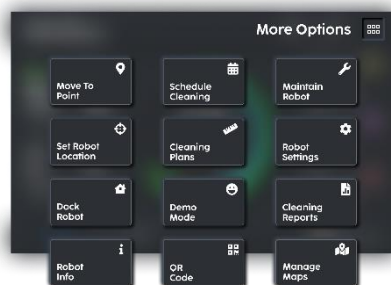

Fig. 1
1. Access the map of the facility by clicking the 'Map' option on the HOME (EXPAND MENU) page (Fig. 1).